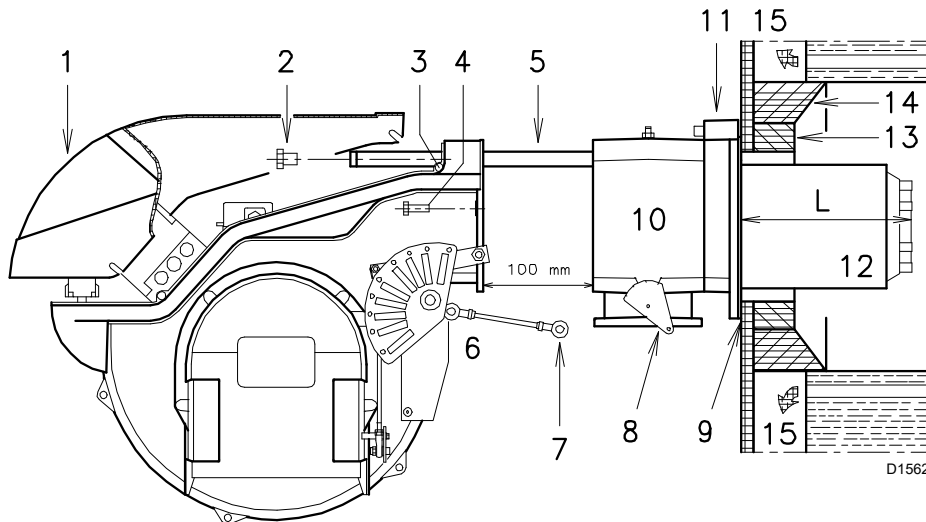

Fig. 14
For boilers with front flue passes 15)(Fig. 14), or flame inversion chamber, a protection in refractory material 13) must be inserted between the boiler fettling 14) and the blast tube 12).
For boilers with a water-cooled front piece, a refractory lining 13)-14)(Fig. 14) is not necessary, unless expressly requested by the boiler manufacturer.
Divide the combustion head from the rest of the burner, as shown in Fig. 14; you have to:
- fix the flange 11)(Fig. 14) to the plate of the boiler interposing the insulating flange gasket 9)(Fig. 14) supplied with the unit.